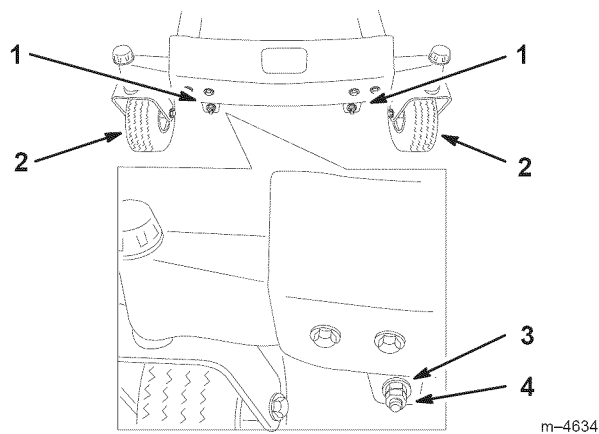
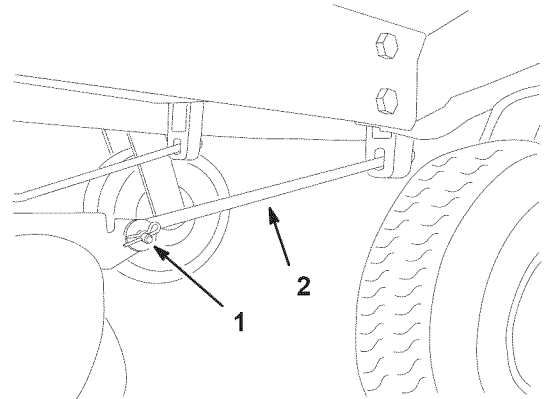

Figure 41
Figure 43
- To adjust the front-to-rear blade slope, remove the locknuts and then rotate the adjustment nuts in the front of the mower (Fig. 41).
- After adjusting both adjustment nuts evenly, check the front-to-rear slope again. Continue adjusting the nuts until the front blade tip is $1/16$ – $5/16$ inch (1.6–7.9 mm) lower than the rear blade tip (Fig. 41).
Note: After adjusting the adjustment nuts, make sure there is **no slack** in either support rod (Fig. 43). Tighten either one to remove the slack (Fig. 41).
4. Remove the hairpin cotter and clevis pin from the front support rod on each side of the mower.(Fig. 43).
7. Attach the front support rods to the tractor with the clevis pins and hairpin cotters (Fig. 43).